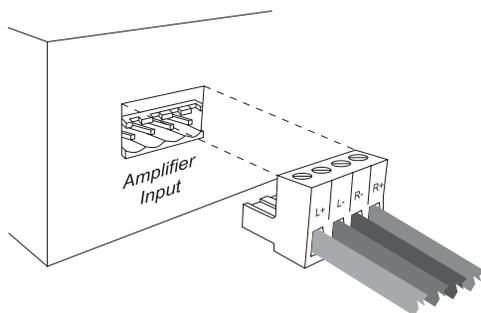

Figure 2
4. Install the connectors to the SS8-50 / SS8-200 (Figure 2).